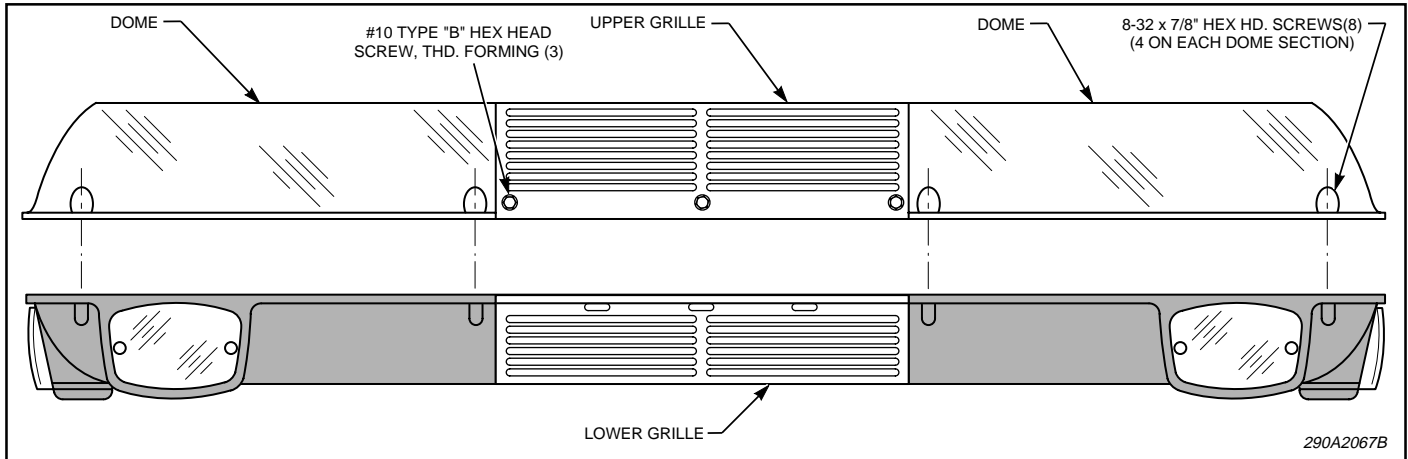
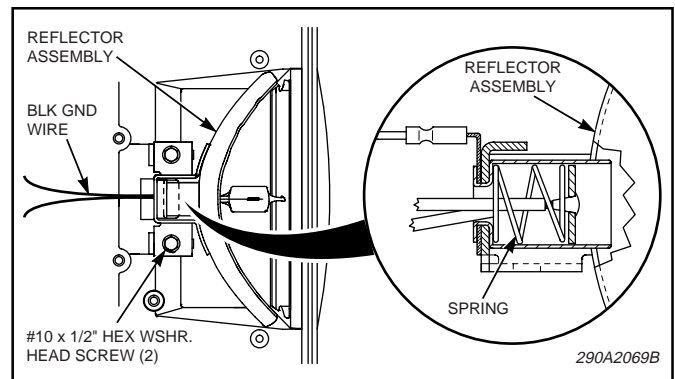

Figure 1.
Figure 2.
A. DOME AND GRILLE REMOVAL (see Figure 1).
2. Remove three (3) #10 type "B" hex washer head thread-forming screws which secure the upper speaker grille to the lower speaker grille. Lift upper grille away from lower grille.
B. INSTALLATION OF SOCKET AND REFLECTOR ASSY. - TAIL LIGHT (see Figure 2).
2. Remove the two (2) #10 x 1/2 hex. washer head screws and lift the existing socket and reflector assembly away from its mounting.